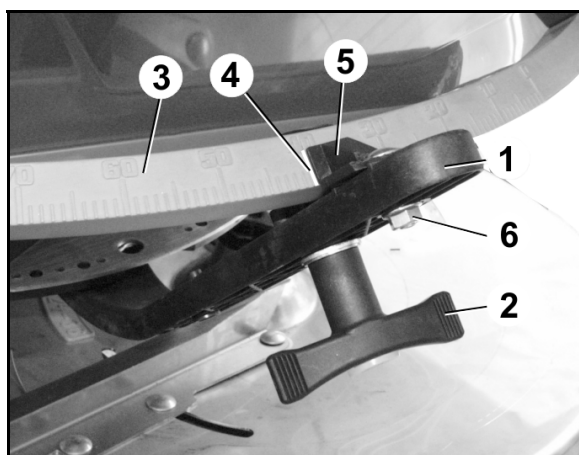

Fig. 84
2. Open the dosing slider with the setting lever (Fig. 84/1).
4. Swivel the setting lever on the scale (Fig. 84/3) until it stops at the pin.
5. Secure the setting lever with the rotary handle (Fig. 84/2).
6. Release the hexagon screw (Fig. 84/6). Align the pointer (Fig. 84/5) to "8" on the scale and secure with the hexagon screw. Read-off edge of the pointer is (Fig. 84/4).